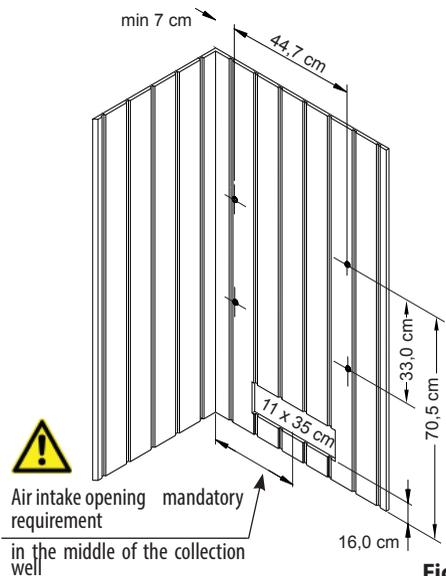
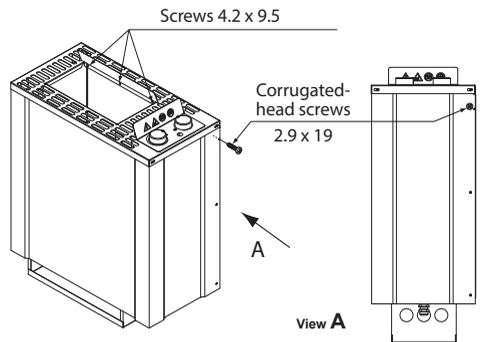

Fig. 2
Fig. 6
- In compliance with Fig. 2, screw 4 attachment screws above the air intake opening into the cabin wall so that there is approx. 3 mm space between the wall and the head of the screw.
6. Secure the sauna heater against the wall using the 4 screws through the borehole on the back edge of the stove (Fig. 2+5) or on the side using the lock screws 2.9 x 19, as shown in Fig. 6 .
7. As shown in Fig. 6, screw tight the enclosed radiant panel using the 3 screws 4.2 x 9.5 and the two lock screws.